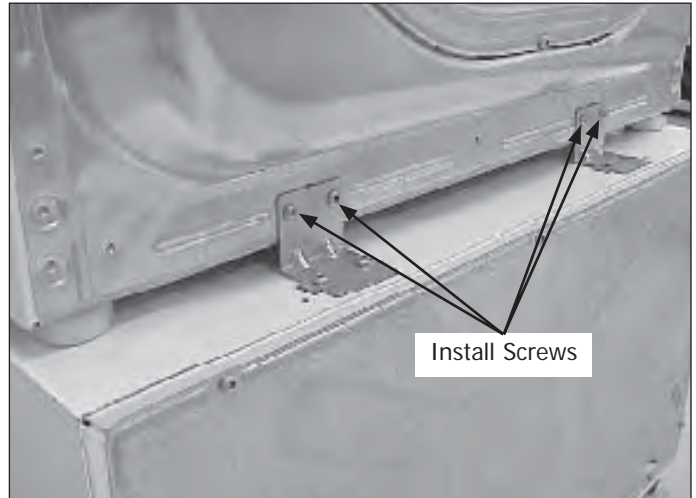

Figure 2-11.
6. Align the sides of the washer with the sides of the pedestal and attach the washer to the rear brackets using four #10 screws (2 per bracket) as shown in Figure 2-11.